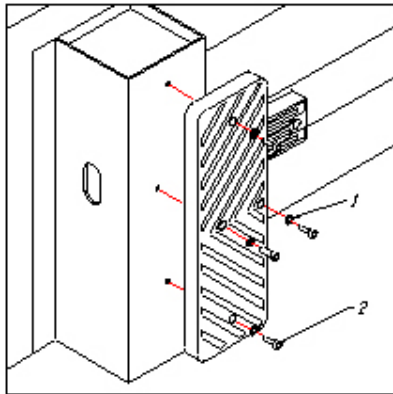

Figure 5-4
Dismantle the screw (1), washer (2) from the cabinet. Then Fix the wheel rubber support (figure 5-4).